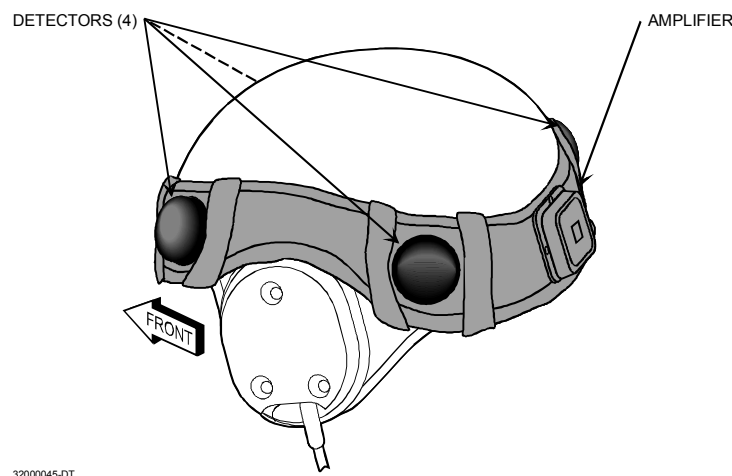

Figure 2-10. Helmet Harness (CVC Helmet).
2.3.1.1.1 Helmet Harness Installation for CVC Helmet. (See Figure 2-10.)
- b. The Helmet Harness consists of a wide elasticized band with detectors, an amplifier, and three (3) patches of fastener tape.